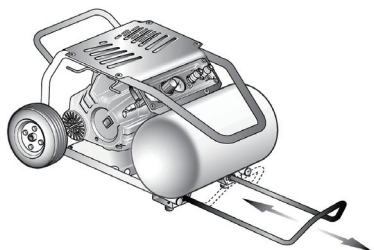

Fig. 5
- Pull telescopic handle out until it locks into place. (Fig. 5)
- To collapse the handle, apply pressure for the first few inches to unlock, then slide the handle straight in until it stops. (Fig. 5)